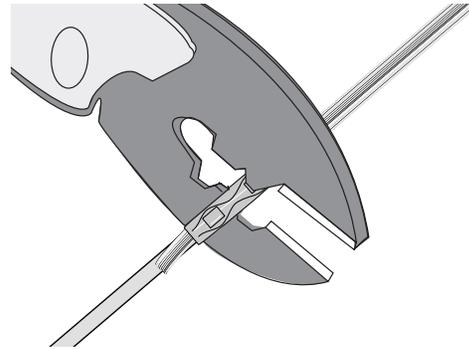

Figure 12
- Use the crimp tool to make two two crimps on the crimp sleeve (Figure 12).